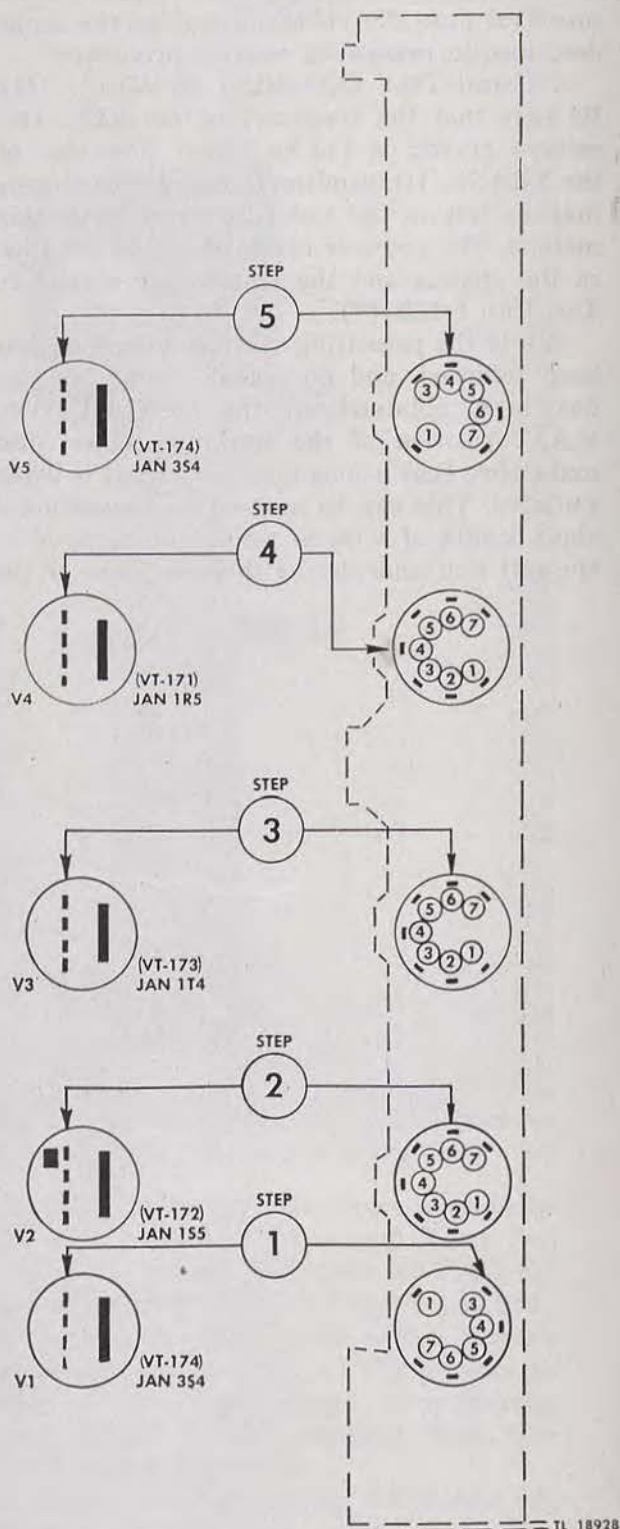

Figure 39. Stage-by-stage trouble location, Radio Receiver and Transmitter BC-611-(\*).
c. PROCEDURE. With the aid of figure 39 and table VI inject the signal at the given points in the set until the trouble is isolated within a particular stage. Apply the *hot* lead of the signal generator to the lug of the tube socket or switch in accordance with figure 39. A signal should be heard or read on the output meter. See table VII for type of signal generator, frequency, and input voltage. After the trouble has been localized to a particular portion of a stage, make a resistance and voltage check of individual components using table VIII to locate the faulty part.